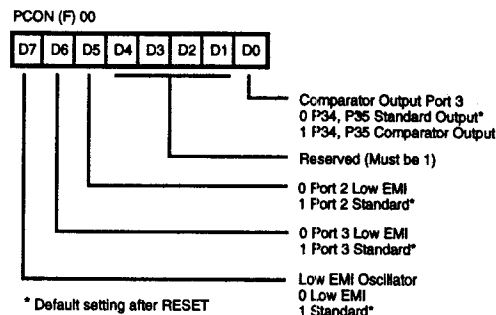

Figure 17. Port Configuration Register (PCON)
**PORT Configuration Register (PCON).** The PCON configures the ports individually for comparator output on Port 3, low EMI noise on Ports 2 and 3, and low EMI noise oscillator. The PCON Register is located in the Expanded Register File at bank F, location 00 (Figure 17).